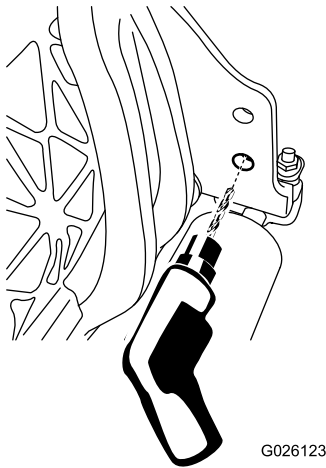

Figure 5
1. Enlarge the lower hole on the right side of the cutting unit using a 9 mm (23/64 inch) drill bit (Figure 5).